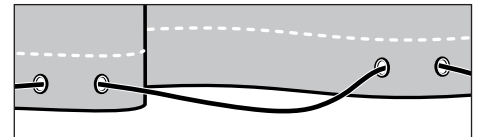
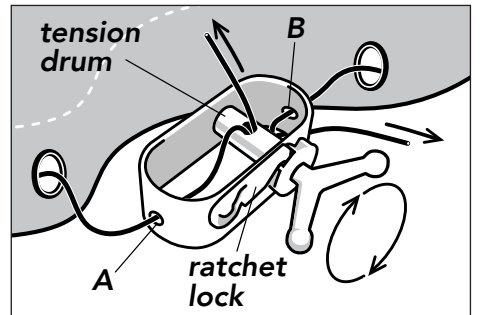

figure 3
figure 4
5. Lace the vinyl coated cable (included) through the grommets around the entire pool. (Figure 3) To lock the cable, insert one end through opening A and the other through opening B of the winch/ratchet (included). Bring both ends through the opening in the tension drum from opposite directions. (Figure 4) Pull ends through until the cable appears reasonably taut around the pool.